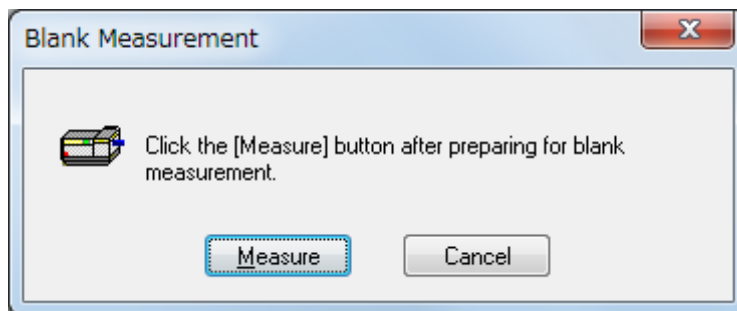

Figure 6.12 [Blank Measurement] dialog box
*Note: This operation can also be performed by clicking the tool button  [Blank Measurement]. When the dialog box in Fig. 6.12 is displayed, the blank measurement can also be started by pressing the <Measure> button.*